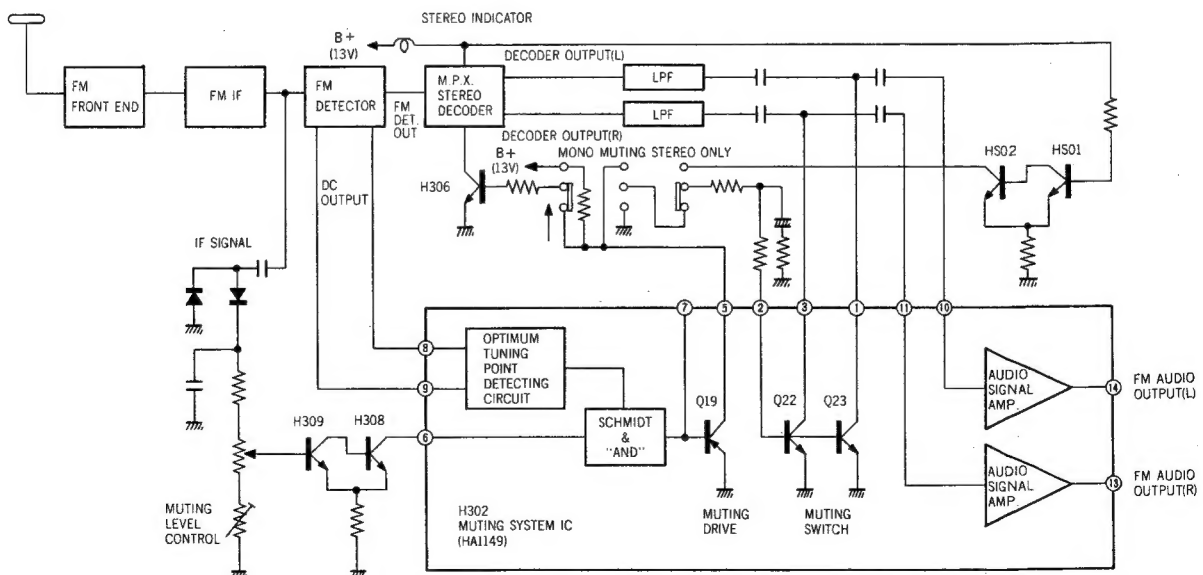

Figure 2. Block Diagram of the Muting System
The first input is a DC voltage obtained by rectifying a part of the IF signal output, and is fed through the trigger voltage shaping circuit of H308 and H309 and R340 to the muting system IC (H302) pin ⑥. Pin ⑥ is connected to the base of the muting drive transistor Q19 through the Schmidt trigger and AND circuit within the IC (H302) (see Fig. 2).
The Model 150 provides a capability of selecting and receiving FM stereo broadcast signals only. This function is given by depressing the STEREO ONLY pushswitch. With the pushswitch depressed, the bases (pin ②) of the muting switching transistors Q23 and Q22 are connected through the trigger amplifier of HS02 and HS01 to the MPX stereo decoding IC (H301) stereo indicator lamp drive pin ⑥ (see Fig. 2).